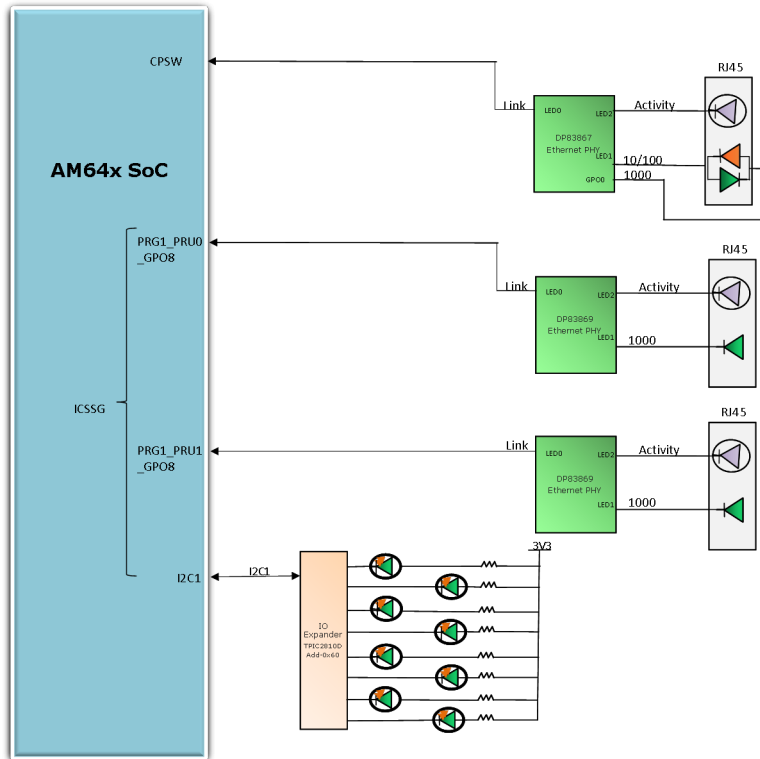

Figure 3-23. AM64x/AM243x EVM Ethernet Interface LED
**LED\_1:** By default, this pin indicates that 1000BASE-T link is established. This setting can be changed to Auto negotiate to 10/100Mbps using the strap resistors. Additional functionality is configurable via LEDCR1[7:4] register bits in the DP83867 device and LEDSR\_CFG1[7:4] register bits in the DP83869 device. LED\_1 is also a strap pin which is having internal pulldown resistor to set RGMII TX Clock Skew in the DP83867 device and to select Auto Negotiation mode in the DP83869 device. Since this pin will be set to active on both the devices this would result in dim LED lighting when LED is driven directly. So a MOSFET is used to drive LED as shown in Figure 3-23.
**GPIO1:** In the DP83867 PHY, the GPIO can be configured to function as LED3 through GPIO Mux Control Register 1 (GPIO\_MUX\_CTRL1) and the LED configuration can be set by programming LEDCR1 register this is also a strap pin which is used to set fast link drop (FDP), currently this is disabled. In the DP83869 PHY The GPIO can be configured to function as LED\_GPIO(3) through GPIO Mux Control Register (GPIO\_MUX\_CTRL) and the LED configuration can be set by programming LEDSR\_CFG1 register, this is also a strap pin which is used to select RGMII to copper mode of operation on startup. This can be changed to MII mode using the MDC & MDIO pin to update the GEN\_CFG1 register – 0x9 (gigabit Ethernet advertising should be disabled when using MII mode as the PHY would not link up at 1000Mbps speed)
The EVM card has multiple LED to indicate status of Ethernet link, Ethernet Activity and Ethernet Speed Set. Figure 3-23 shows the LED used for ICSSG PRG1 Ethernet activity and CPSW Ethernet activity. Additionally, there are eight LED's that are connected to an IO Expander, which is controlled by the SoC via the I2C1 port. These eight LED can be toggled based on the user application.